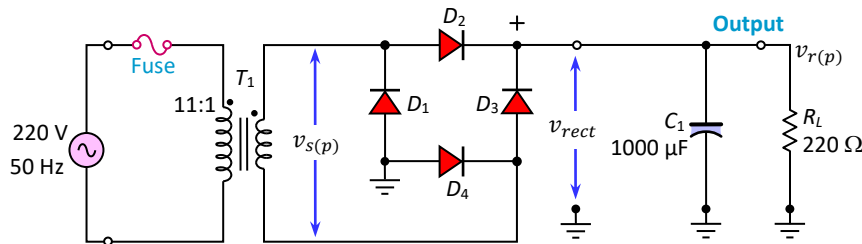

Fig.3-111: Full-wave bridge rectifier for Exercise 25
25. To solve the following problems, use the full-wave bridge rectifier given in the above Fig.3-111.